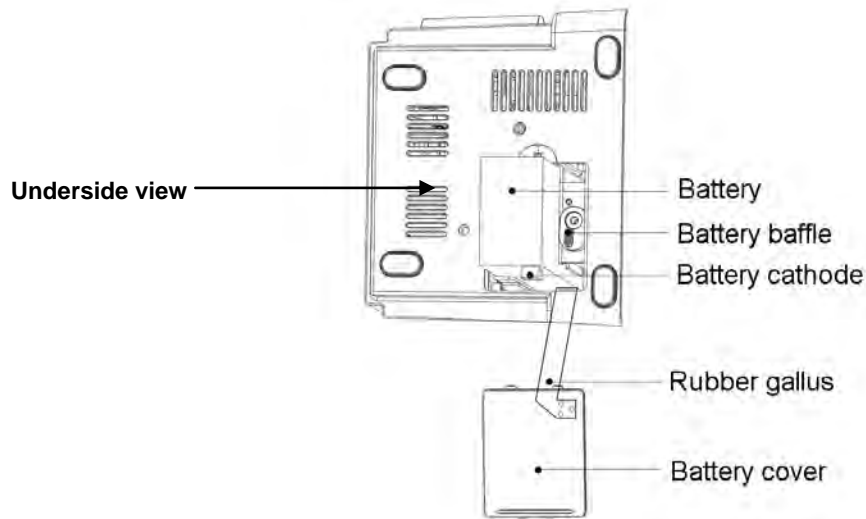

Figure 3.8 Battery Installation
2. Open the battery cover and place the battery in the direction as shown in Fig. 3.8 to insert the battery into any one of battery compartments. Do not insert battery with their polarities reversed.